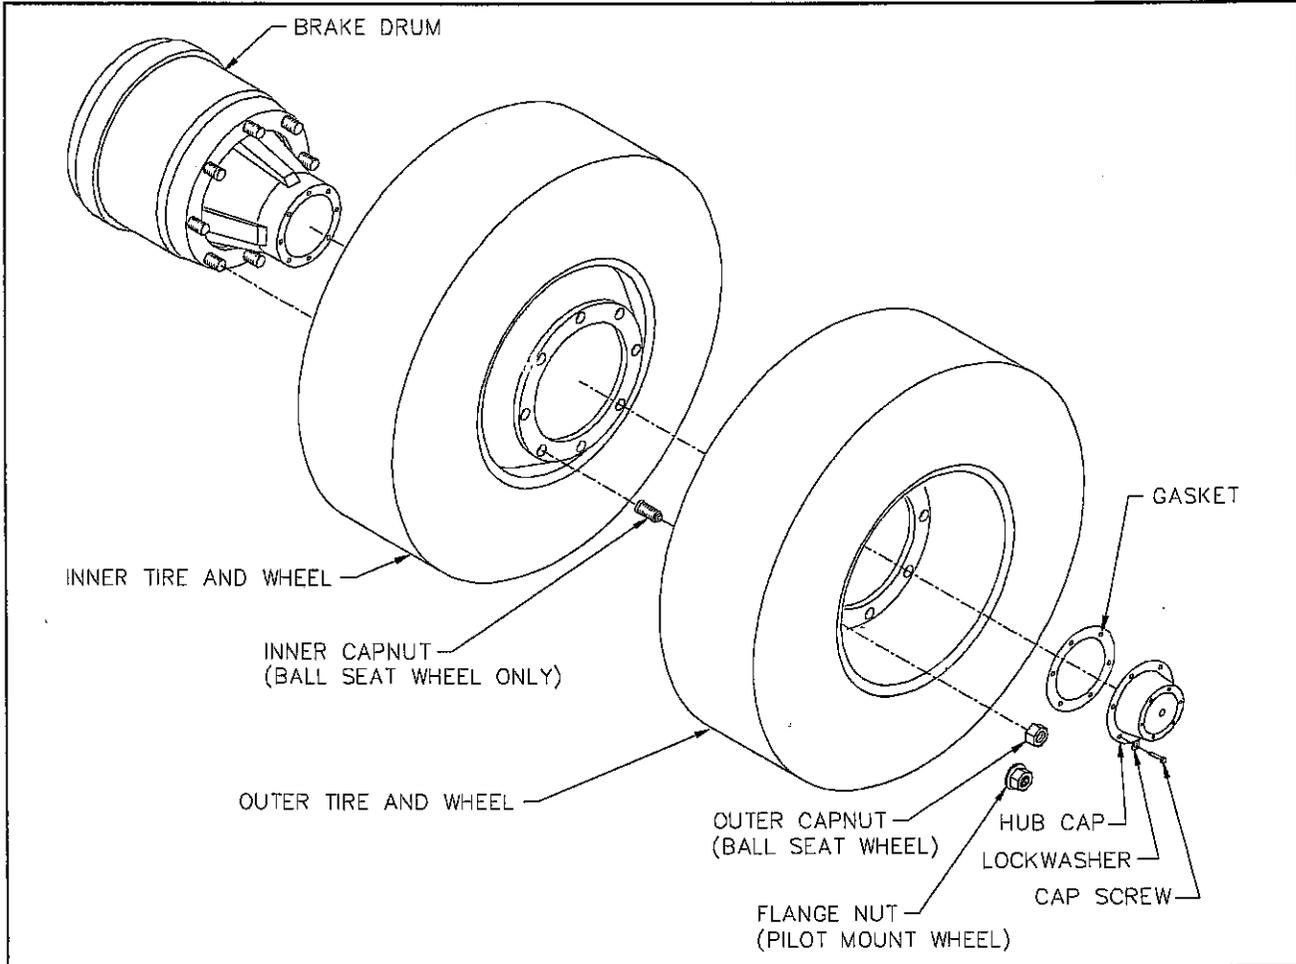

Figure 4-12 Mounting Tires and Wheels
a. Make sure that all mounting surfaces are clean and free of rust, dirt or paint. A wire brush may be used to clean these surfaces (see Figure 4-12).